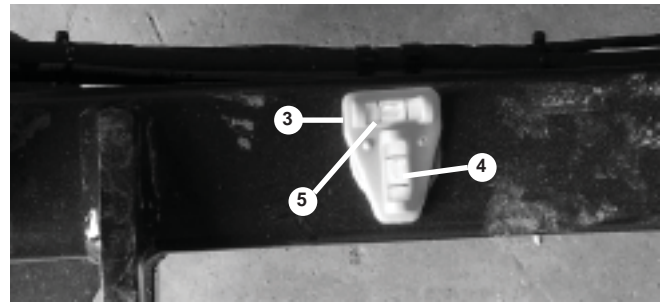
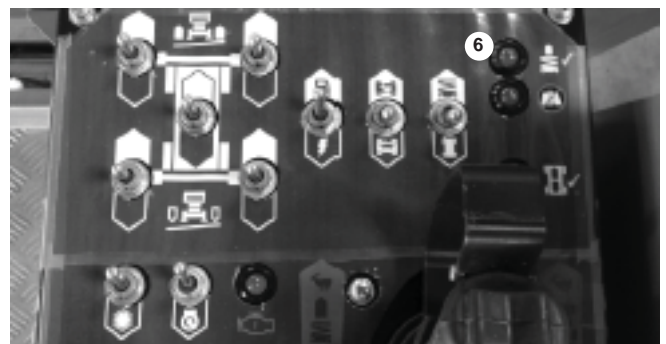

Figure 8.13
Figure 8.14
3. Visually check the level bubble (3) to determine which stabilisers must be further extended to level the platform (see figure 8.13).
4. Lower the appropriate stabilisers just enough to center the bubbles (4) and (5) (see figure 8.13). When the lift indicator light (6) (see figure 8.14) comes on, the platform can be safely raised.